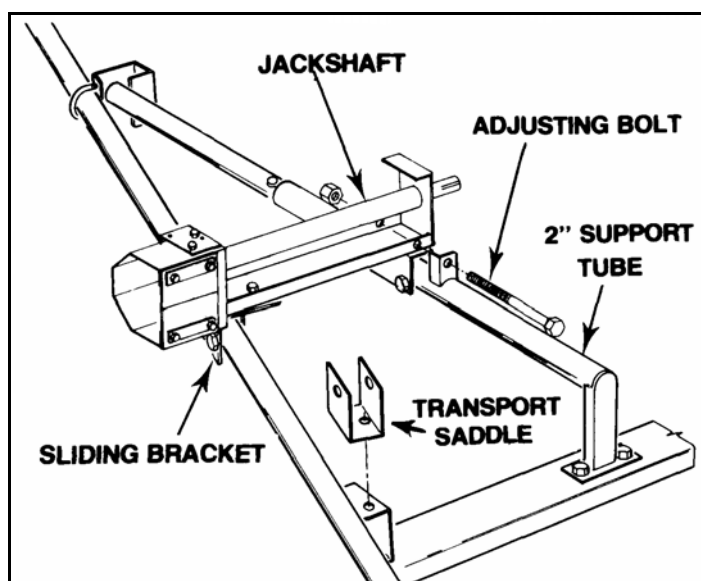

Figure 3.19
- 5. Place jackshaft into position on the 2" support tube and insert two 7/16" x 3" bolts and locknuts (Figure 3.19).